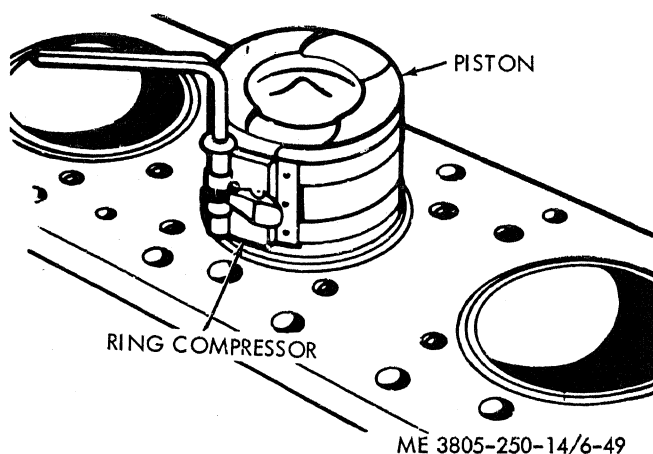

Figure 6-49. Piston ring compressor.
(13) Install piston ring (7) with either side up.
(14) Lubricate the cylinder sleeves and the piston assemblies with engine oil. Rotate the piston rings so that the ring end gaps are staggered.
(15) Refer to figure 6-49 and place ring compressor (849-T) over the piston. Ensure that the piston rings are fully in the grooves, and tighten the compressor a little at a time, ensuring that the rings are free to compress.